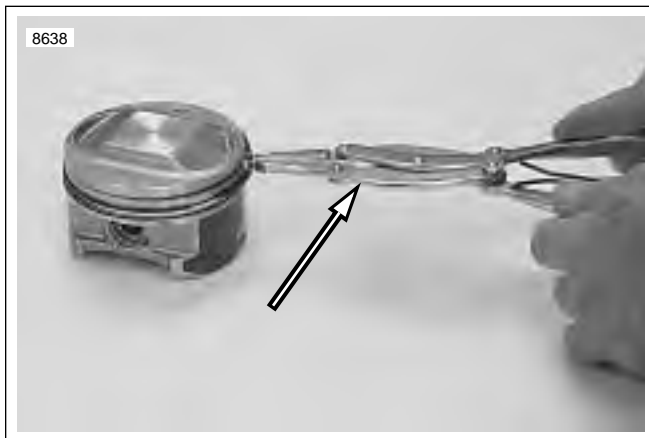

Figure 3-94. Installing Piston Rings Transmission Shaft Retaining Ring Pliers (Part No. J-5586)
- See Figure 3-94. Apply engine oil to piston grooves. Use TRANSMISSION SHAFT RETAINING RING PLIERS (Part No. J-5586) to slip compression rings over piston into their respective grooves. Be extremely careful not to over expand, twist rings or damage piston surface when installing rings.